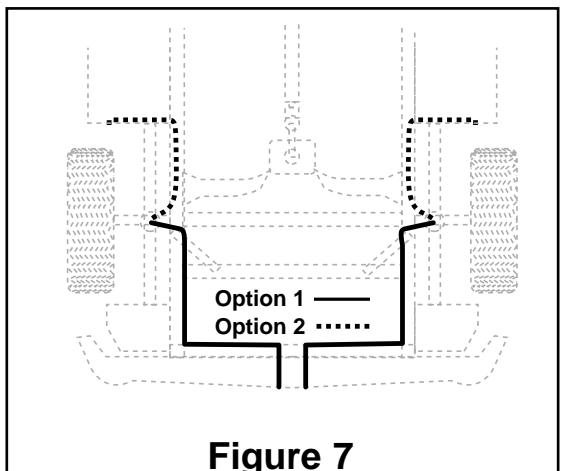

Figure 7
F. Route air line along frame or under fender panel to desired inflation valve location (Figure 7). Attach air line to chassis with plastic straps or wire.